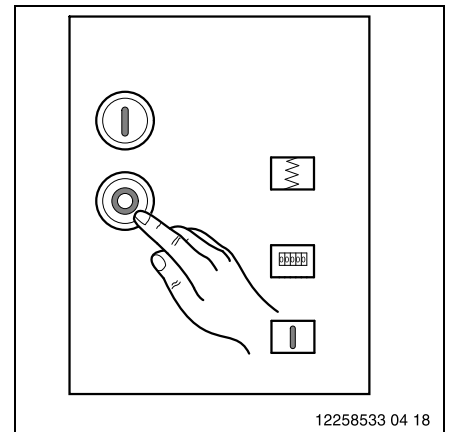

Fig. 56
**2** Switch the circuit-breaker OFF. To do this, press the pushbutton OFF (0) on the circuit-breaker control panel (Fig. 56).